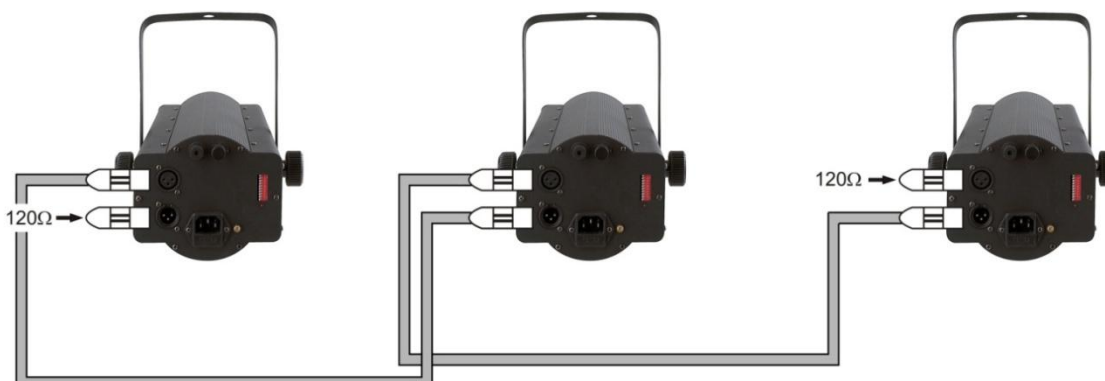

Fig. 3
3. Link the units as shown in (Fig. 3), Connect a DMX signal cable from the first unit's DMX "out" socket to the second unit's "in" socket. Repeat this process to link the second, third, and fourth units.